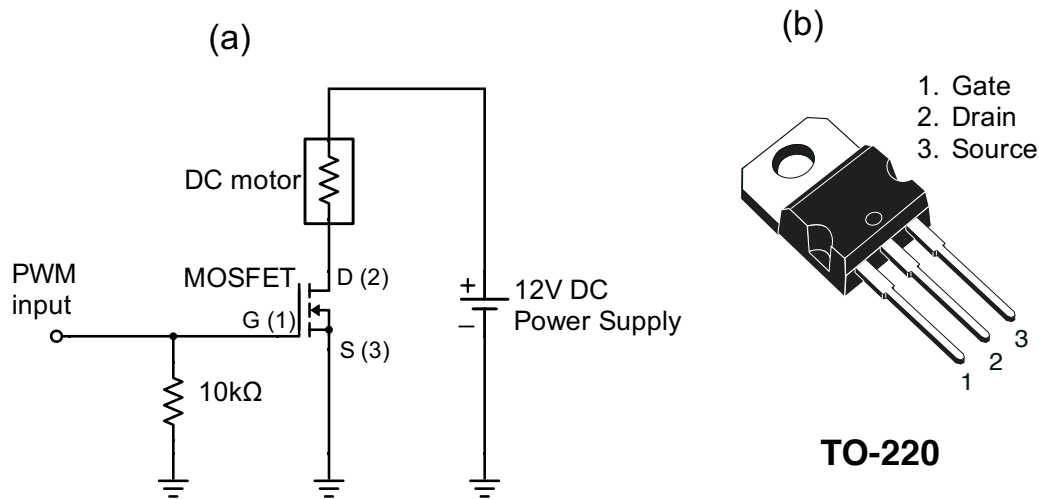

Figure 3 – The MOSFET PWM circuit from last week can be used to control the speed of a DC electric motor.
1. Construct the MOSFET PWM circuit shown in Fig. 3. This is the same circuit you used with the solenoid, but you will replace the solenoid with a DC motor.
A pneumatic cylinder uses pressure from a gas to drive a piston and rod, resulting in linear motion. Shown in Fig. 3, a 5-way solenoid valve is used to switch the compressed air P_{IN} between two outlets, P_1 and P_2 . When $P_1 > P_2$, the rod will extend to the right. The rod will retract to the left when $P_1 < P_2$. The valve also has two vents that allow the pressurized air to quickly leave the cylinder when switching occurs.
2. Connect the blue 6mm OD tubes using the push connectors, as shown in Fig. 3.
6. Use the breadboard, 12V DC power supply, and in-line kill switch to construct the circuit shown in Fig. 3.